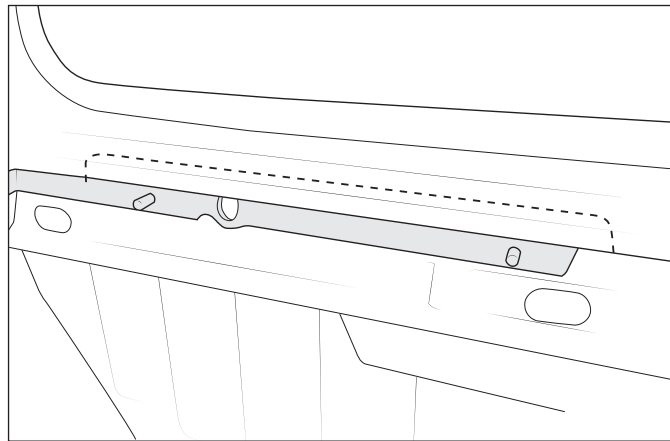

Figure 14
4. If the bed cap has a fiberglass flange on the bulkhead that reaches into the bed area it will need to be trimmed (fig. 14). Place the VTM's Bulkhead Bracket into position and mark where the fiberglass flange needs to be cut.